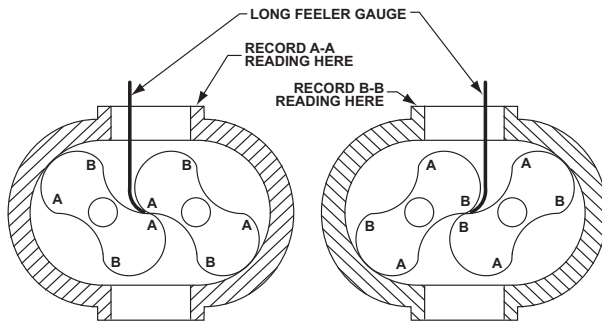

Figure 8-4 – Checking Rotor Interlobe Clearance
- Using feeler gauges, take interlobe readings and record on each side of housing as indicated in **Figure 8-4**. By removing or adding shim behind the helical gear, it rotates as it is moved in or out and the driven rotor turns with it, thus changing the clearance between rotor lobes. Changing the shim thickness 0.006 in. (0.15 mm) will change the rotor lobe clearance 0.003 in. (0.08 mm) or one-half the amount.
**EXAMPLE:** Referring to **Figure 8-4**, check the clearance at AA (right-hand reading) and BB (left-hand reading). If AA reading is 0.009 in. (0.23 mm) and BB reading 0.003 in. (0.08 mm), by removing 0.006 in. (0.15 mm) shims, the readings will change one-half the amount removed or 0.003 in. (0.08 mm). AA should then read 0.006 in. (0.15 mm), and BB should read 0.006 in. (0.15 mm). The final readings should be within 0.002 in. (0.05 mm) of each other. To determine the amount of shim to add or remove, subtract the smaller figure from the larger one. If the right side reading is higher than the left side, remove shim. If the right side reading is lower, add shim.